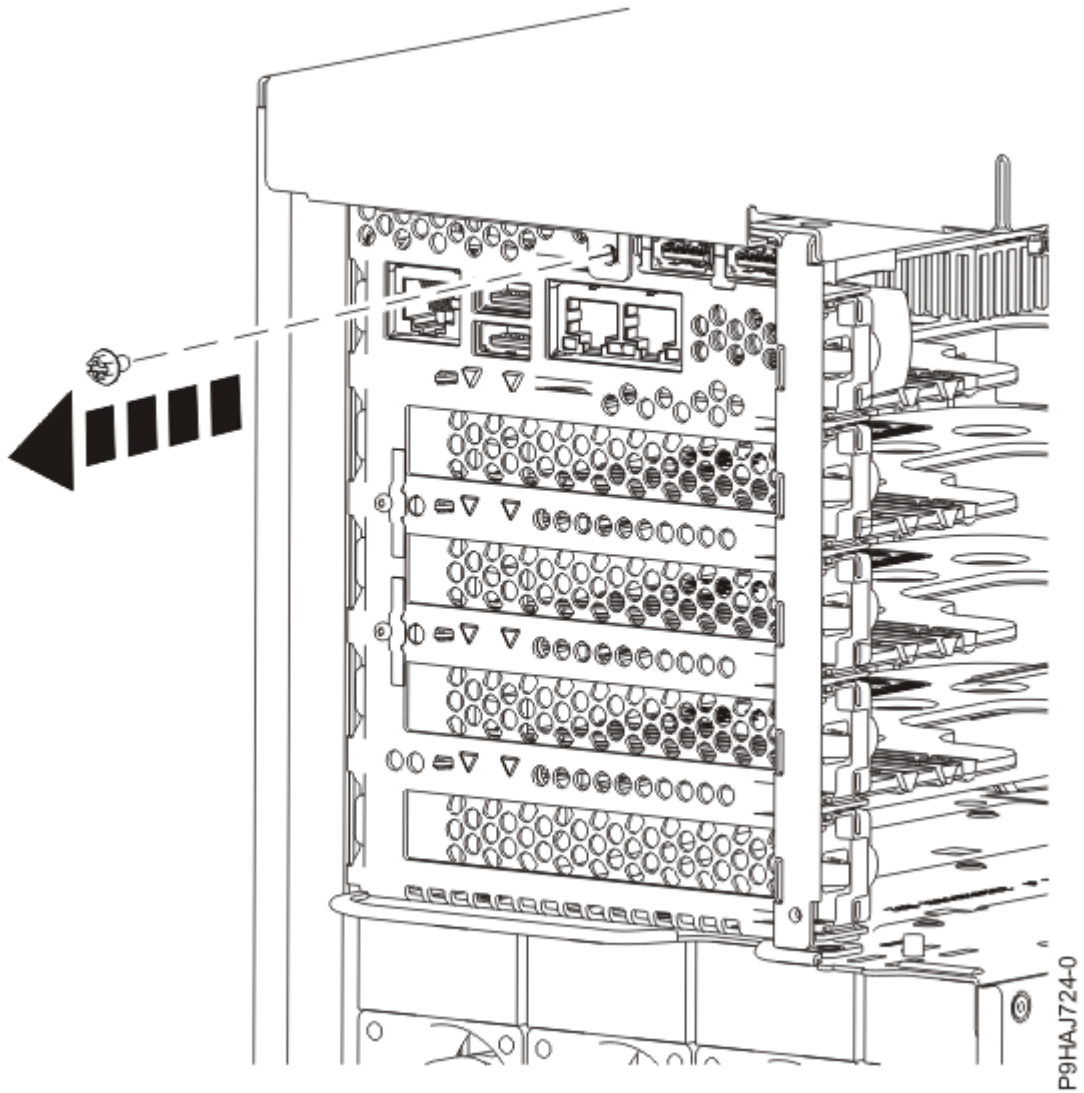

Figure 11. Removing the screw from the side cover
5. Remove the rear screw from the side cover by using a Phillips screwdriver as shown in Figure 11 on page 26.